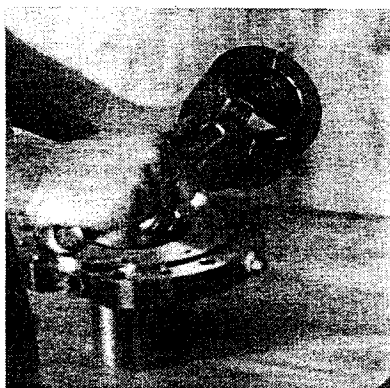

Figure 10
13. Loosen the sleeve bolt set screw (Item 12) and remove the sleeve bolt (Item 7) [Fig. 10]. Remove the sleeve, the thrust ring, the inner magnet, and the inner magnet key (Item 16).